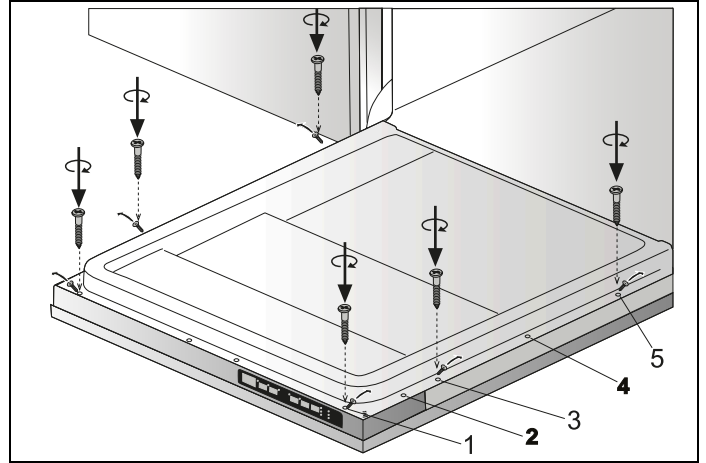

Fig. 30
6) The screws located on the wooden door are fitted to the dishwasher at the discharges located on the door outer sheet and are assembled as shown in Fig. 30.
8) As shown in Fig. 30 , Screws  $\text{Ø}5/32" \times 53/32"$  ( $\text{Ø}4\text{mm} \times 42.5\text{mm}$ ) are installed in positions I, III and V.